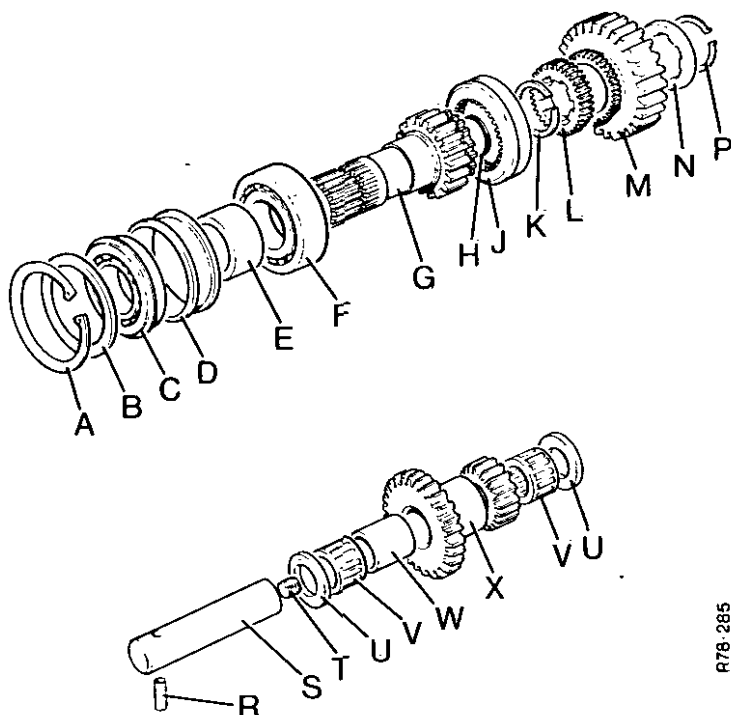

FIGURE 94.
22. Put the front end plate on to the bottom studs and move towards the spacer. Do this until the driven gear M, Figure 94 can be put on the topshaft. Install the gear with the dog teeth toward the front and install the six bearing pads.
25. Install the selector gear J, Figure 94 and the dog gear H, for slow/normal on the topshaft. Make sure the thin part of the teeth of the dog gear is toward the front.
33. Install the circlip K, Figure 94 on the front of the topshaft.